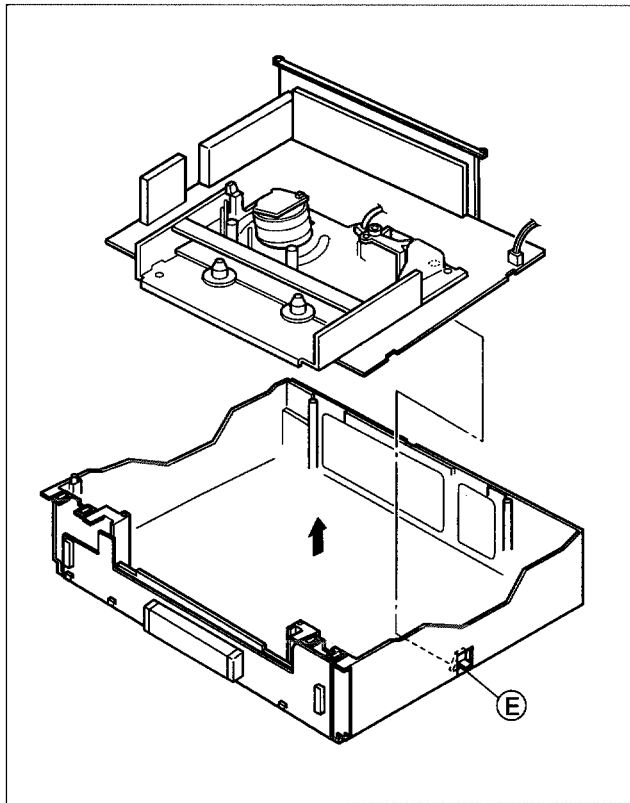

Fig. 1-4-2
- (6) Remove the hook (E) while holding the edge of the Main board assembly, and remove the Main board and Mechanism assemblies together. At this stage be careful of the power cord and prongs of the jacks on the back side. (Refer to Fig. 1-4-2.)